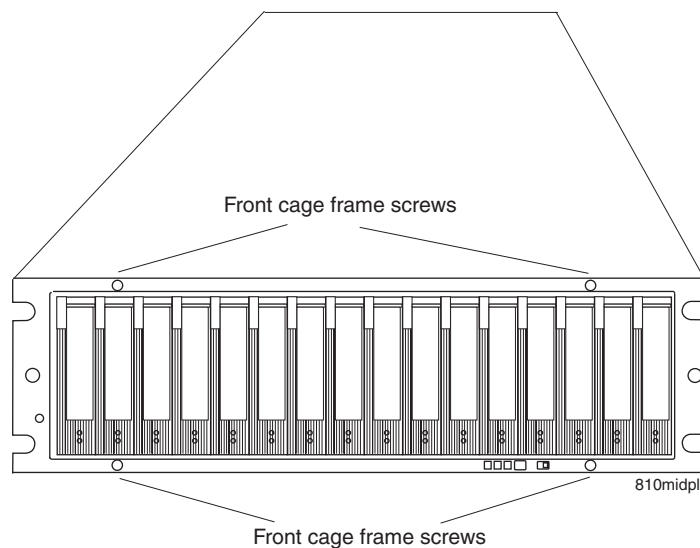

Figure 86. Front cage frame screw locations
9. Use a #1 Phillips screwdriver to loosen the four front cage frame screws on the midplane, as shown in Figure 86.
16. Tighten the four front cage frame screws. See Figure 86 on page 150.